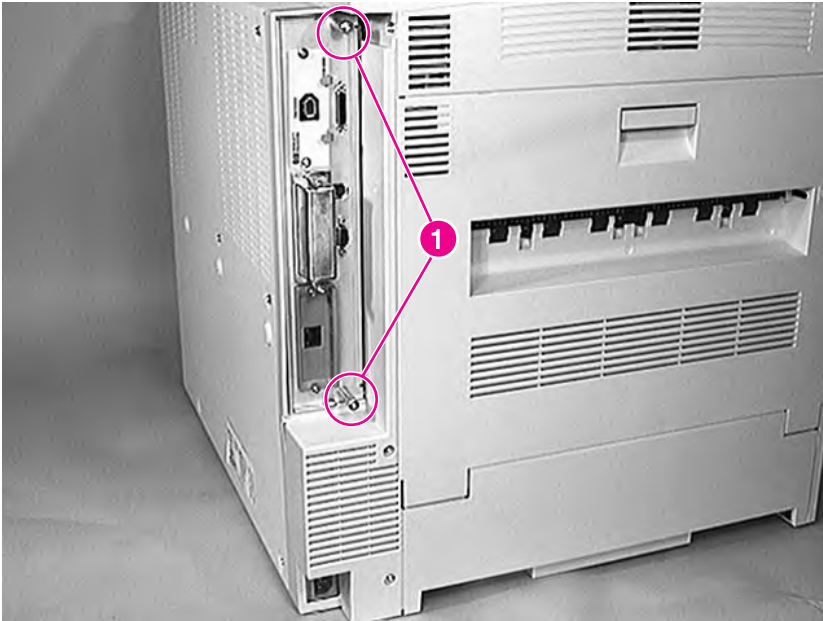

Figure 6-33 Formatter Assembly
- 2** Loosen the two captive screws (figure 6-33, callout 1), and slide the Formatter PCA out of the chassis.
- 1 Remove the Formatter Assembly (see figure 6-33 on page 197).
- Formatter Assembly (see figure 6-33 on page 197)